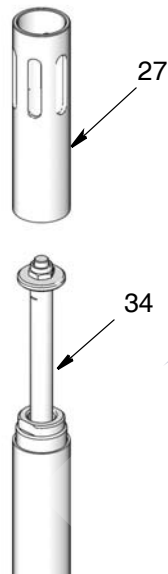

Fig. 2
4. Secure a strap wrench around the shovel cylinder (27). Use the strap wrench to turn the shovel cylinder counter-clockwise to loosen and remove it from the pump assembly (Fig. 2).